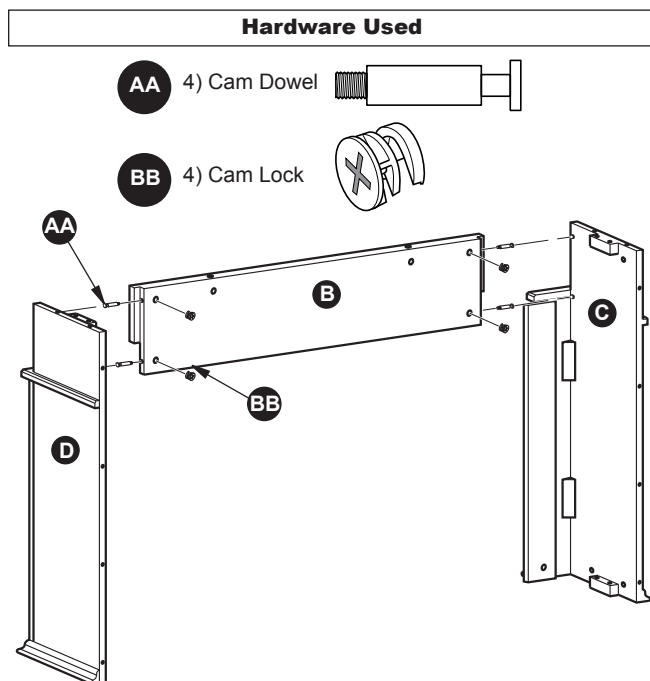

Figure 1
1. Insert Cam Locks (BB) into Panel (B). Screw Cam Dowels (AA) into the Left Side Panel (C) and the Right Side Panel (D). Attach Panel (B) into assembled frame (C, D) by tightening the Cam Locks (BB) as shown in Figure 1.